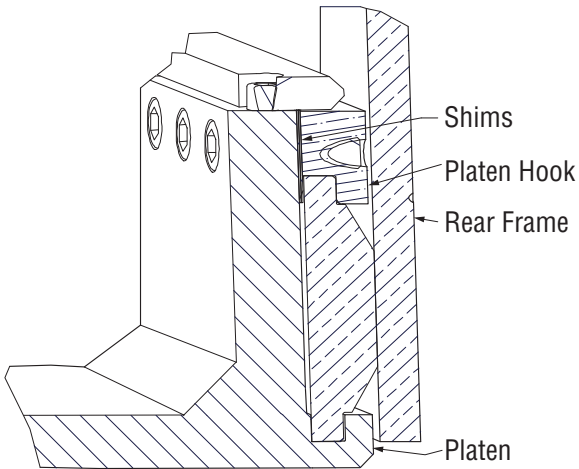
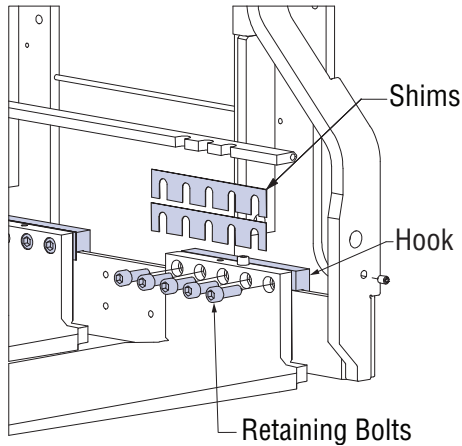

Figure 6-7, Platen Shims
Figure 6-8, Hook installation
4. Install the upper hooks and shims. (Figure 6-7) Leave the hook retaining bolts loose (Figure 6-8).